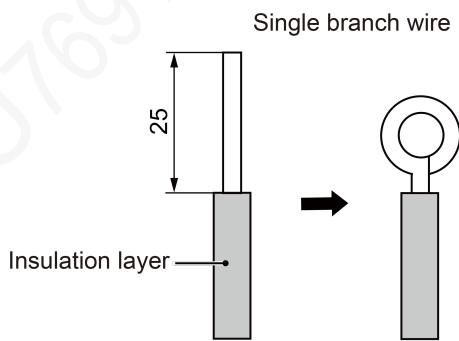

Fig 5.1
(1) Connection of Single Branch Line (shown in Fig 5.1)